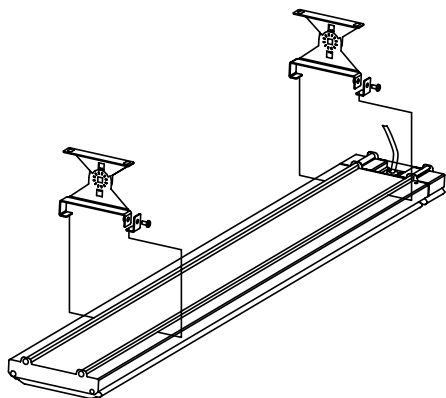

Fig.5
4. Install the brackets at distance from each other according to Fig. 5, securing them using a chain or fasteners.
5. Suspend the heater on the brackets according to Fig. 5, first securing on edge, then another. Make sure that screws are tightened firmly.